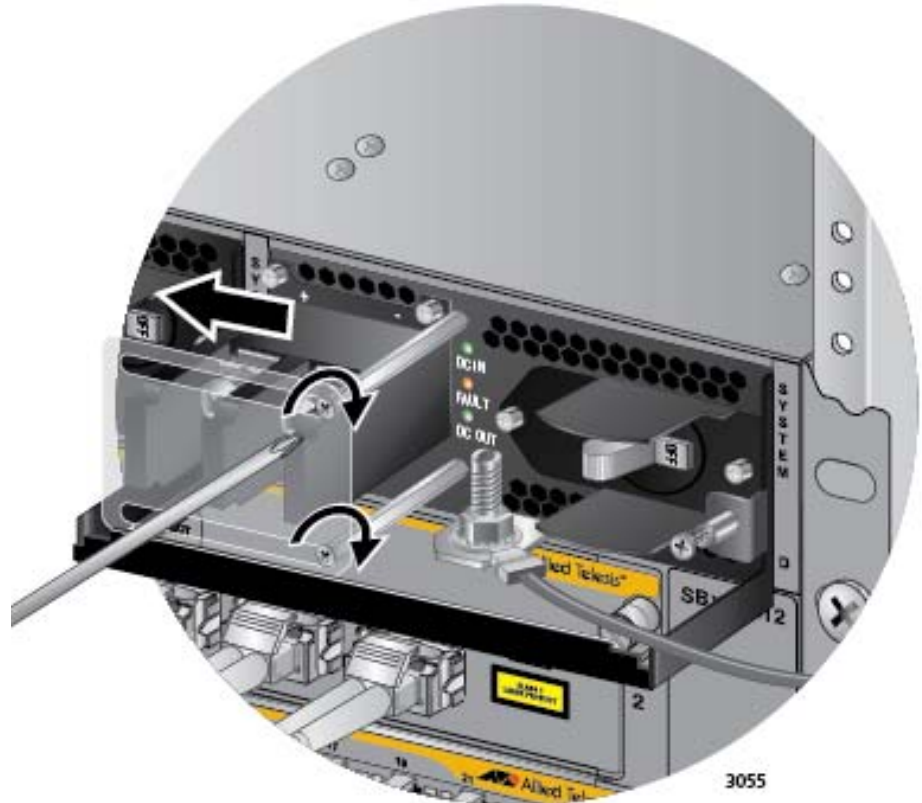

Figure 155. Closing the Plastic Cover
8. Slide the plastic cover to the left and lightly tighten the two screws to secure it in place. Refer to Figure 155 on page 243.